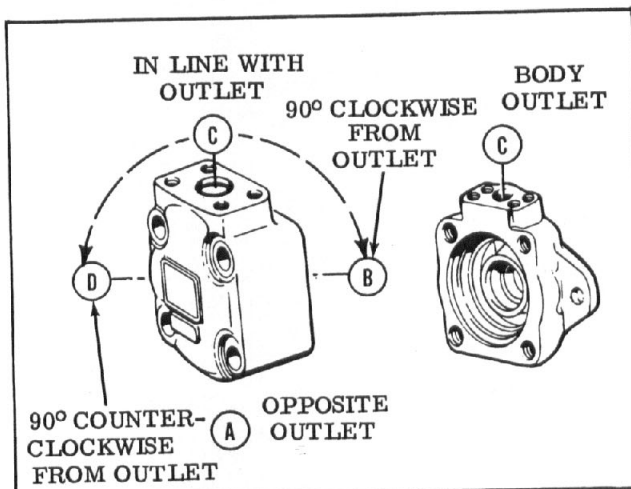

Figure 6 - Port Positions.
1. If it should be necessary to change the inlet port positions, the pump cartridge must be rotated in accordance with the change of the cover position. The cover can be placed in four positions as shown in Figure 6.